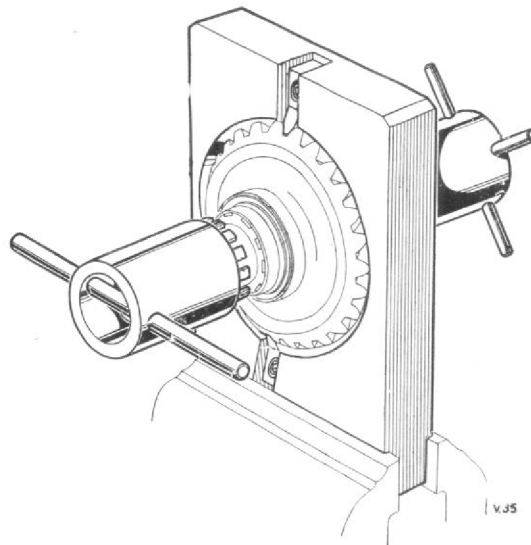

Fig. 7. Vice block T.74910 and spanner T.74911, for removing ring nut from horizontal drive shaft.
4. Position the drive shaft, ring nut outwards, in vice block T.74910, Fig. 7.